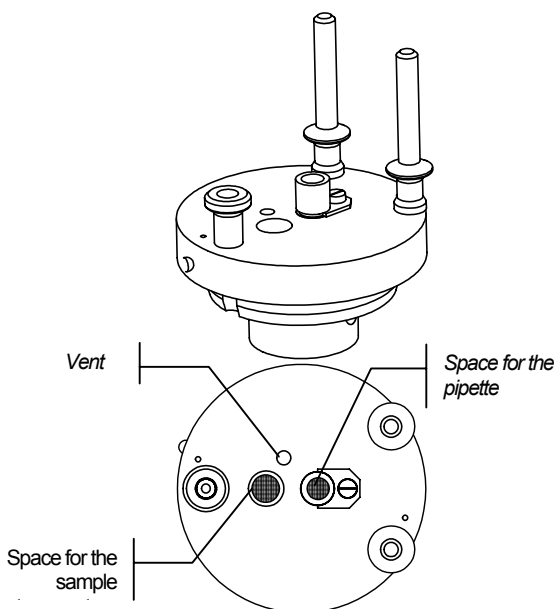

Figure 7: Stopper, 3D view and view from above
4. A **Stopper** adapted to the testing tube by means of clips (ISL improvement). It is made of an oil-resistant plastic material (see Figure 7 on page 1-26).
1. Insert the pipette into the stopper as shown in Figure 7 and Figure 8 see above.